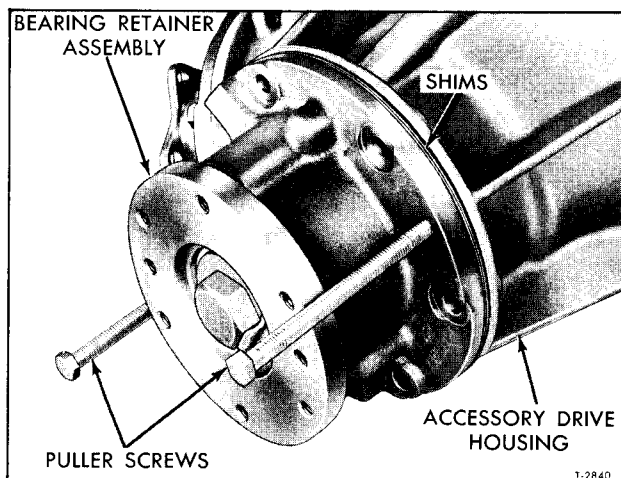

Figure 70—Using Puller Screws To Remove Retainer
1. Remove bearing retainer attaching bolts (20) and lock washers (21).
2. Install two puller screws into tapped holes in bearing retainer (35). See figure 70. Force bearing retainer evenly from housing by alternately turning puller screws 1/2 turn each. Remove puller screws. Retain shim pack (37) to assure original gear backlash if it was found